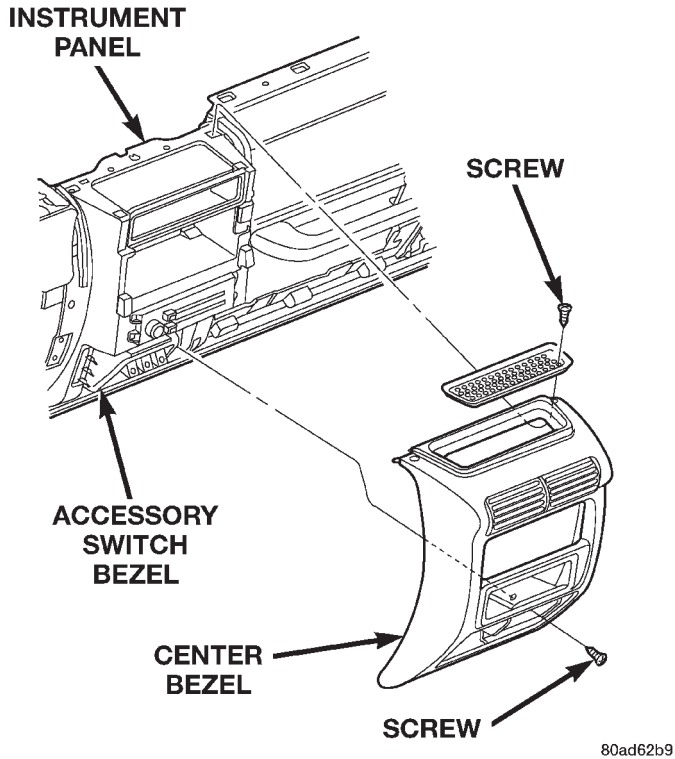
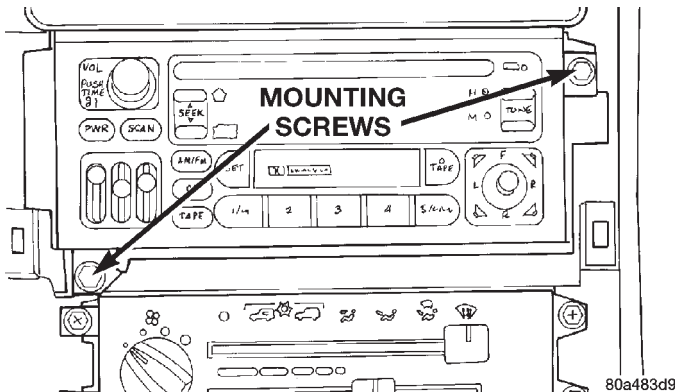

Fig. 2 Center Bezel Remove/Install
Fig. 3 Radio Remove/Install
- (1) Disconnect and isolate the battery negative cable.
- (2) Remove the instrument panel top cover from the instrument panel. Refer to Instrument Panel Top Cover in Group 8E - Instrument Panel Systems for the procedures.
- (3) Remove the ash receiver from the ash receiver housing in the lower instrument panel center bezel.
- (4) Remove the one screw located in the back of the ash receiver housing that secures the center bezel to the lower instrument panel (Fig. 2).
- (5) Remove the two screws that secure the center bezel to the top of the instrument panel.
- (6) Using a trim stick or another suitable wide flat-bladed tool, gently pry the lower edge of the center bezel away from the instrument panel.
- (7) Lift the lower edge of the center bezel upwards to release the four snap clip retainers that secure it to the instrument panel.
- (8) Remove the center bezel from the instrument panel.
- (9) Remove the two screws that secure the radio to the instrument panel (Fig. 3).